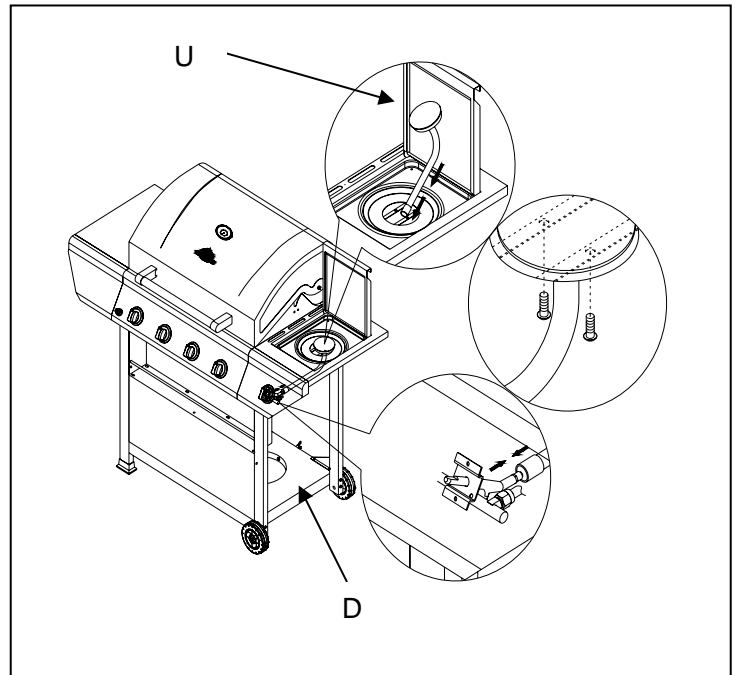

Fig. 19
**Note:** After completing side burner installation, make sure there is no more than a 3 mm gap between igniter pin and burner. As shown in Fig.19.